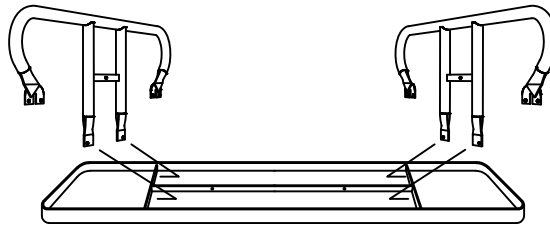

FIG. 1
Invert (A-) top so it's upside down on a flat surface. Attach both (C-) legs to the innermost part of the top's end leg mounting brackets with seat mounting brackets toward inside of top, see FIG. 1. Use two, per each leg, (F) and (H) using two (G) and one (J) per each (F).
Secure the opposite end of each brace to the top's center support brace, see FIG. 3, refer to FIG. 1 or 2, using one, per each brace, (F) and (H). Use two (G) and one (J) per each (F).